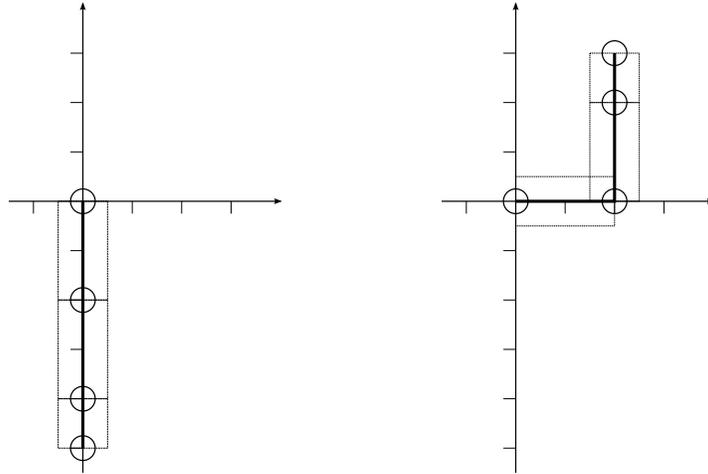

Figure 1: A simple arm at rest (left) and raised (right)
Suppose we have a model of a character's arm. The shoulder is at the origin, $(0, 0)$, and when it is at rest the elbow is at $(0, -2)$, the wrist at $(0, -4)$, and the fingertips at $(0, -5)$, as shown on the left of Figure 1. We want to raise the arm so that it is raised, as shown on the right of Figure 1. In this pose, the elbow is at $(2, 0)$, the wrist at $(2, 2)$, and the fingertips at $(2, 3)$.
3. What are the angles for the ‘rest’ position when the arm is lying along the negative y -axis, as illustrated on the left of Figure 1?
4. What are the angles when the arm is raised, as illustrated on the right of Figure 1?